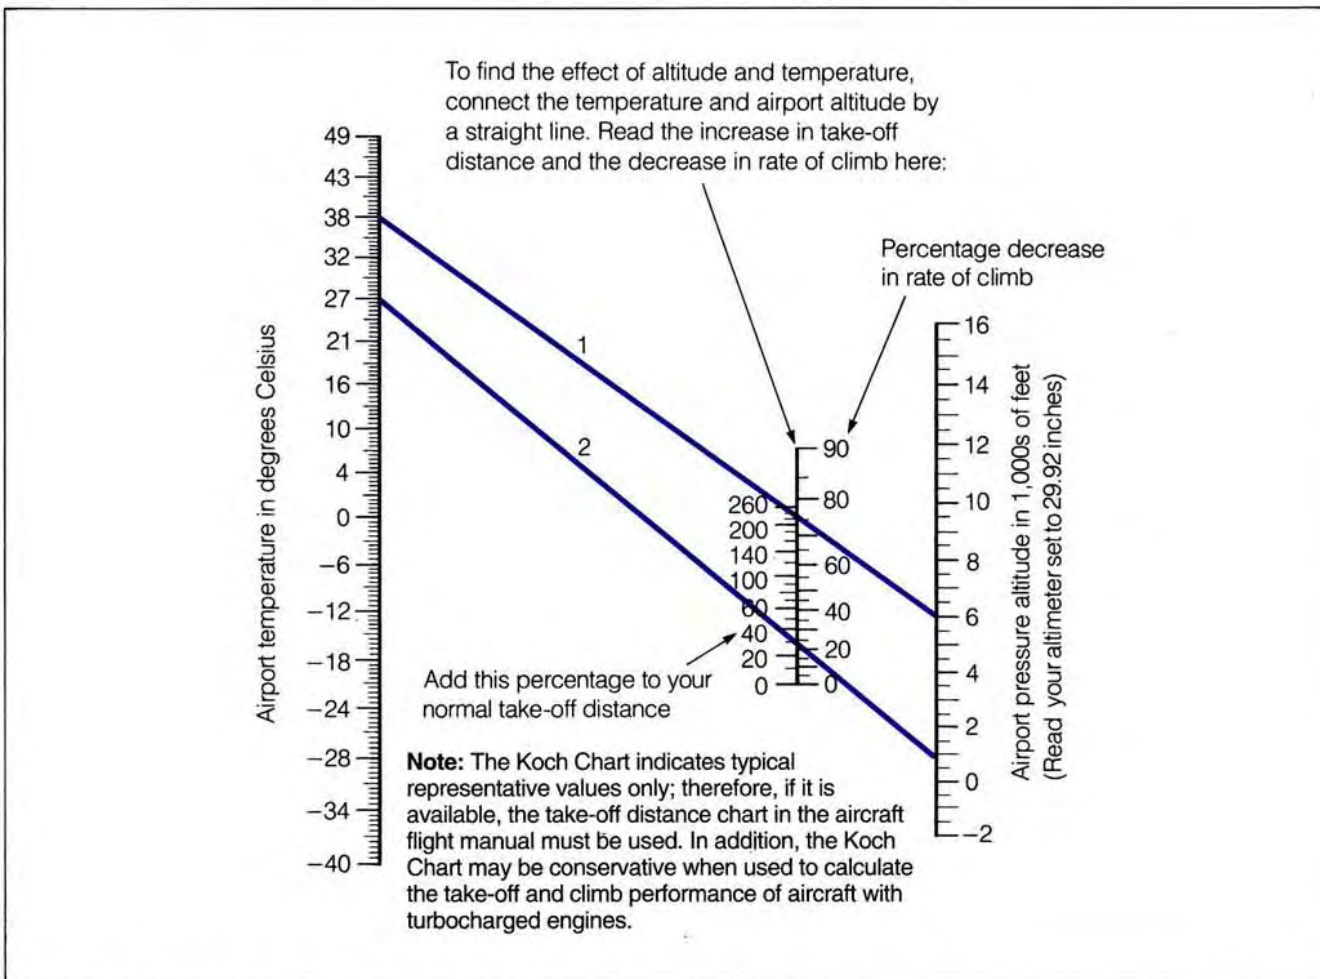

Figure 2-43 The Koch Chart for Temperature and Altitude Effects
tables in the Aircraft Flight Manual, which show the changes in performance resulting from various airport elevations and air temperatures. The aircraft manufacturer’s recommendations are always the best source for this information but should these recommendations not be available, useful take-off performance data may be calculated by using the Koch chart (Fig. 2-43).
The straight line (1) used as an example in the Koch Chart (Fig. 2-43) shows that an aircraft at an airport with a pressure altitude of 6,000 feet with an outside (ambient) air temperature of 38°C (100°F) requires 220 percent more take-off distance than the same aircraft would require at sea level in standard atmosphere. Even at a common airport pressure altitude of 1,000 feet, 30 percent more take-off distance is required if the ambient air temperature is 27°C (80°F) (line 2).